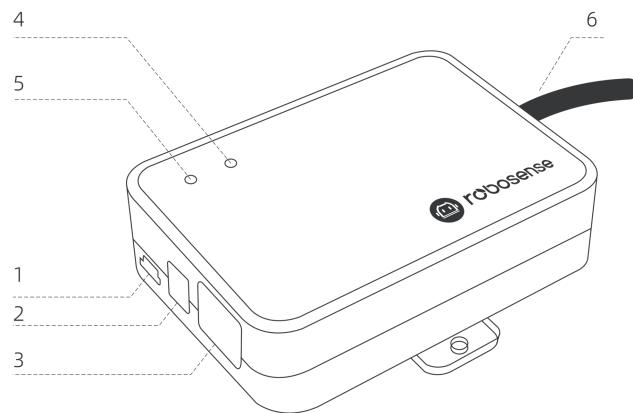

Figure 11 Interface Box Schematic
The Helios 32 accessory interface box is equipped with status indicator lights and various interfaces, as shown in Figure 11 . It can be connected to power input, RJ45 Ethernet port, and GPS input cable (the cable length for the aviation plug version of the interface box is 3 meters; for other cable length requirements, please contact Robosense).
- After powering on, under normal working conditions, the red and green power indicator lights on the LiDAR's Interface Box will be constantly on. The positions of the indicator lights are shown in Figure 11 .